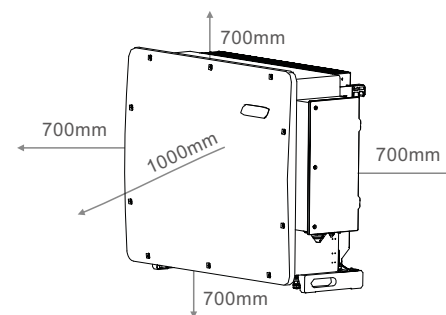

Figure 3.1 Distances required between inverters
- If multiple inverters are installed on site, a minimum clearance of 700mm should be kept between each inverter and all other mounted equipment. The bottom of the inverter should be at least 700mm above of the ground or floor (see Figure 3.1).